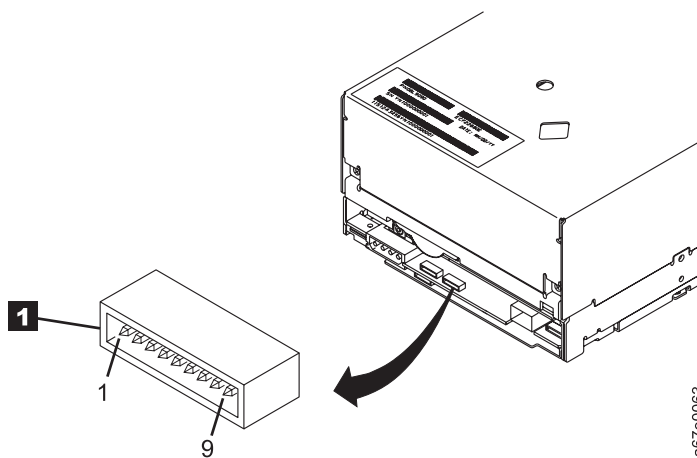

Figure 9. Location of the Fibre Channel (FC) configuration/status connector. The view is from the rear of the drive.
- \_\_\_ 3. Locate the Fibre Channel (FC) configuration/status connector on the drive (see **1** in Figure 9 on page 22).